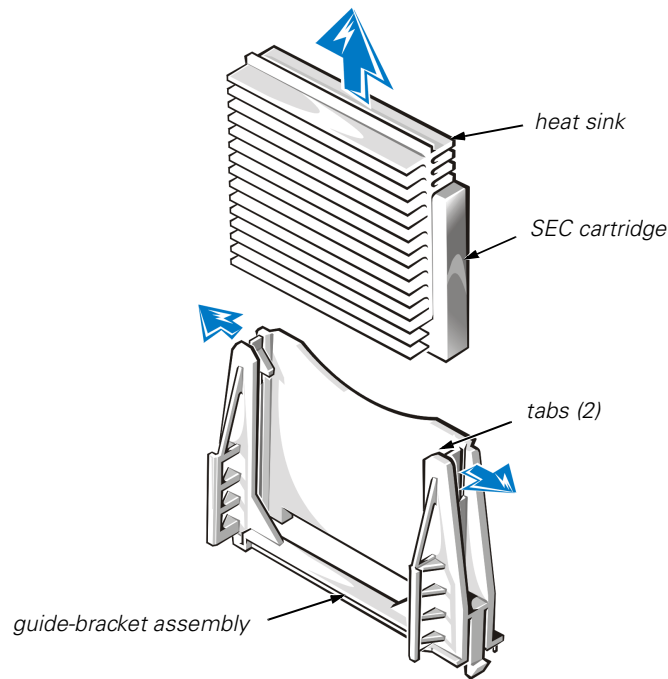

Figure 8-9. Removing an SEC Cartridge and Heat Sink
3. Pull the tabs on each side of the guide bracket away from the ends of the cartridge, and then lift the cartridge and heat sink assembly away from the guide-bracket assembly (see Figure 8-9).